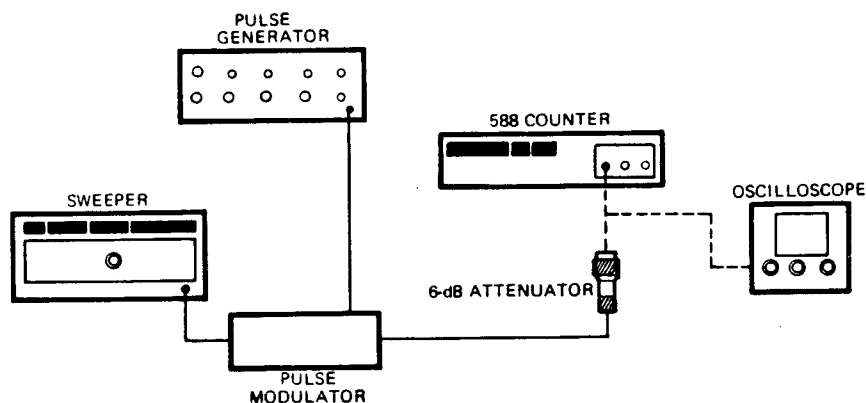

Figure 4-18. Band 1 Distortion Error Test Setup
1. Connect equipment as shown in Figure 4-18. The 6-dB attenuator should be at the input of the counter.